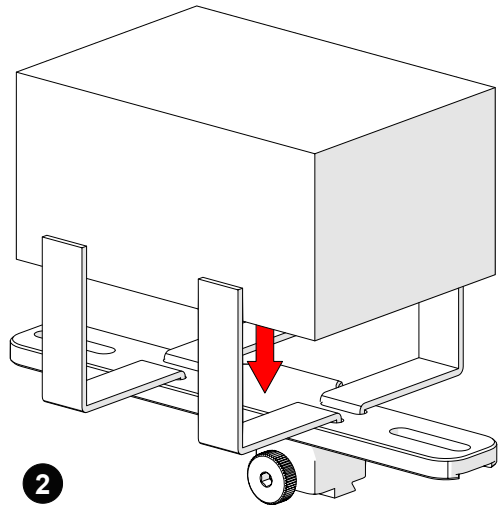

Fig. 88 - Place preamp and wrap velcro
2. Centre and place the preamp on the bracket wrapping the velcro around the preamp (Fig. 88).